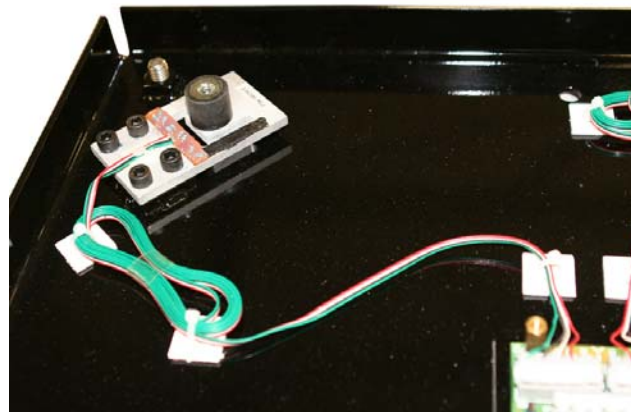

Figure 4-2. Load cell and wire placement
9. Secure the cable in position with the adhesive-backed cables tied supplied in the hardware kit. See Figure 4-2 for an illustration of load cell and cable placement.